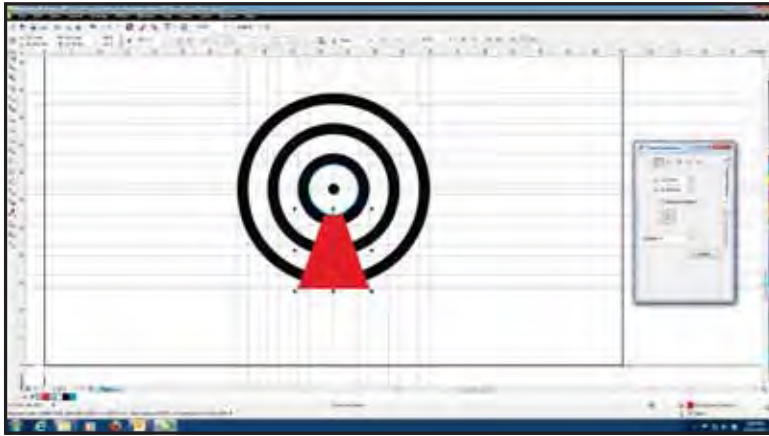

Fig.14
- 8. Draw a new circle on the inner side of the third circle in. Use this to trim the tower as in Fig 14.